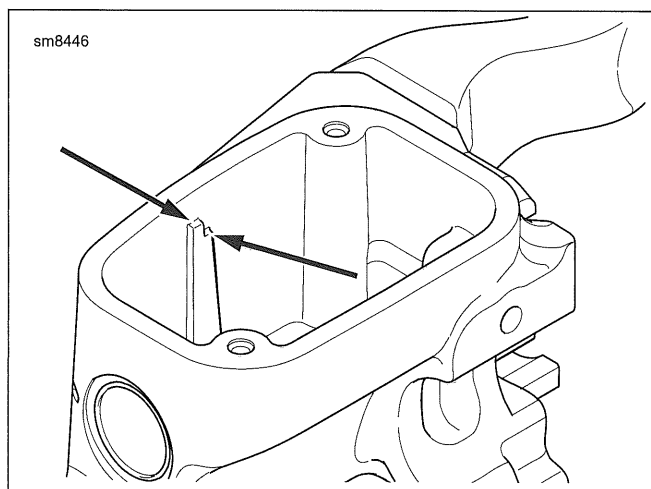

Figure 2-21. Front Master Cylinder Fill Level
- Front:** See Figure 2-21. Verify that fluid is visible in the sight glass (1). If necessary, add brake fluid to reservoir.